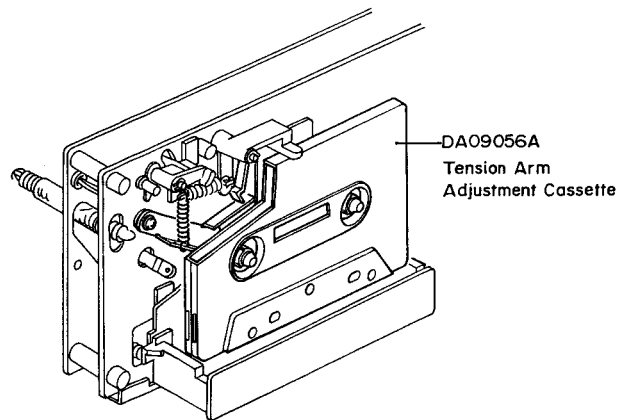
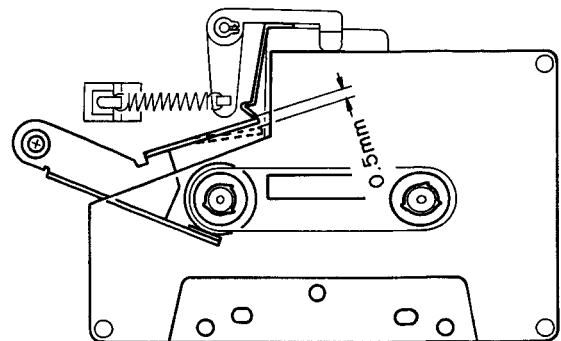

Fig. 4.13
Fig. 4.14
Refer to Figs. 4.13 – 4.16.
- (1) Load a Tension Arm Adjustment Cassette (DA 09056A) referring to Fig. 4.13.
- (2) Set the N-660ZX in play mode.
- (3) Bend the Back Tension Arm with pliers so that the gap between the Cassette Holding Spring assembled with the Head Base Ass'y and the Back Tension Arm becomes 0.5 mm as shown in Fig. 4.14. Do not bend the pointed end of the Back Tension Arm.